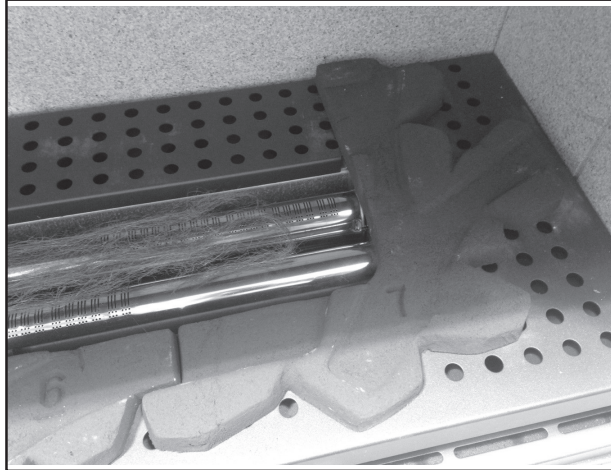

Fig. 3
3. Place the RHS ceramic base in the burner compartment. The inside face of the base should align with the burner opening and the slot of the Middle ceramic base, (See fig. 3). Ensure the ceramic base is not covering the burner.